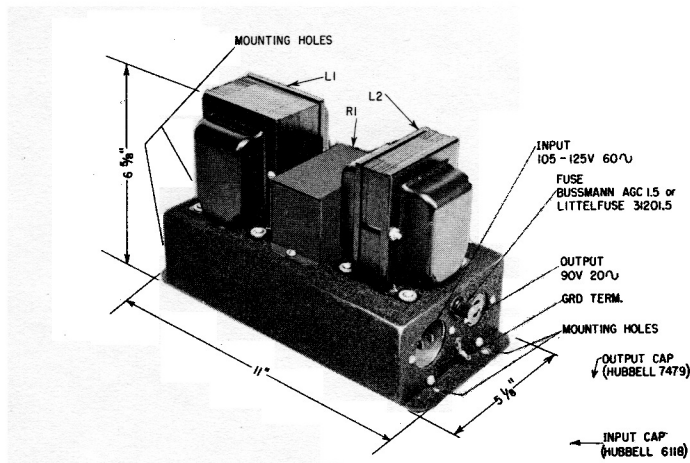

Fig. 1—KS-5585, List 01 and List 06 Static Ringing Generators
1.03 The KS-5585, List 01 and List 06, static ringing generators operate from a 105- to 125-volt, 60-cycle, power supply and have a 20-cycle output of 100 milliamperes, 75- to 110-volts, and are equipped with separable plugs and receptacles for connecting the input and output leads. These plugs and receptacles are of different types to prevent the leads from being accidentally interchanged. See Fig. 1.